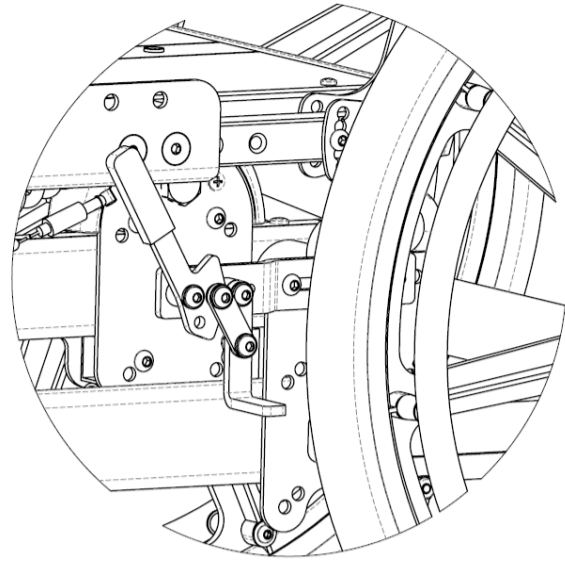

Figure 14.36: *Pull to Lock Wheel Locks*
2. To engage the pull to lock wheel lock (see Figure 14.36), pull the lever towards the wheel until it locks into place.